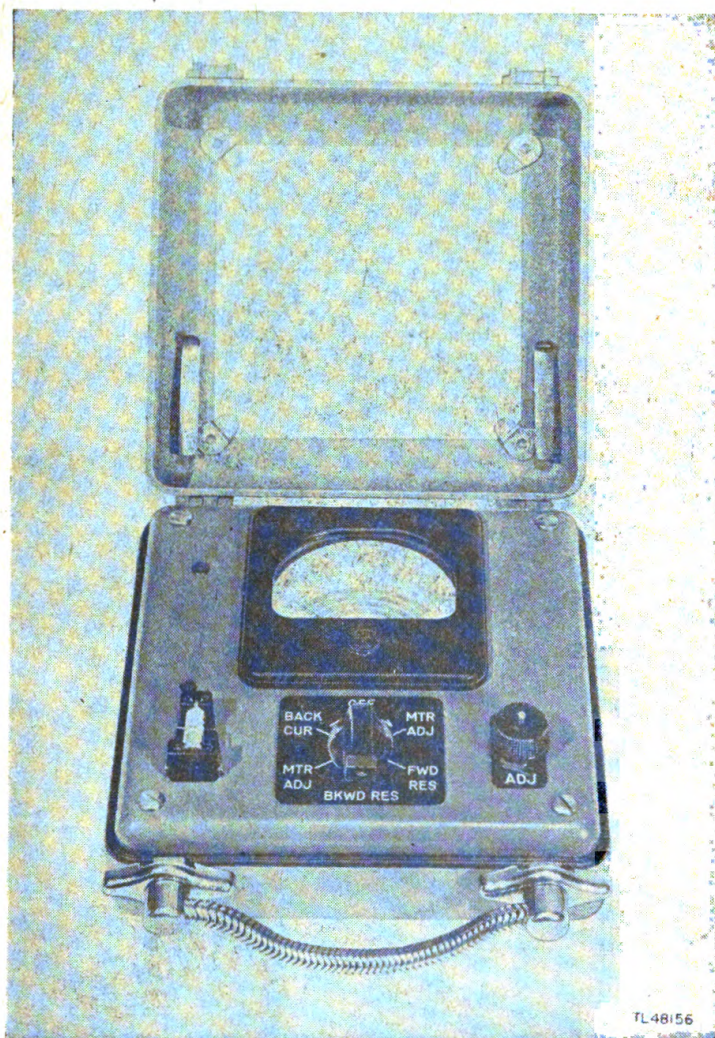

Figure 10. Crystal Rectifier Test Set TS-268/U.
12. CRYSTAL RECTIFIER TEST SET TS-268/U (fig. 10).